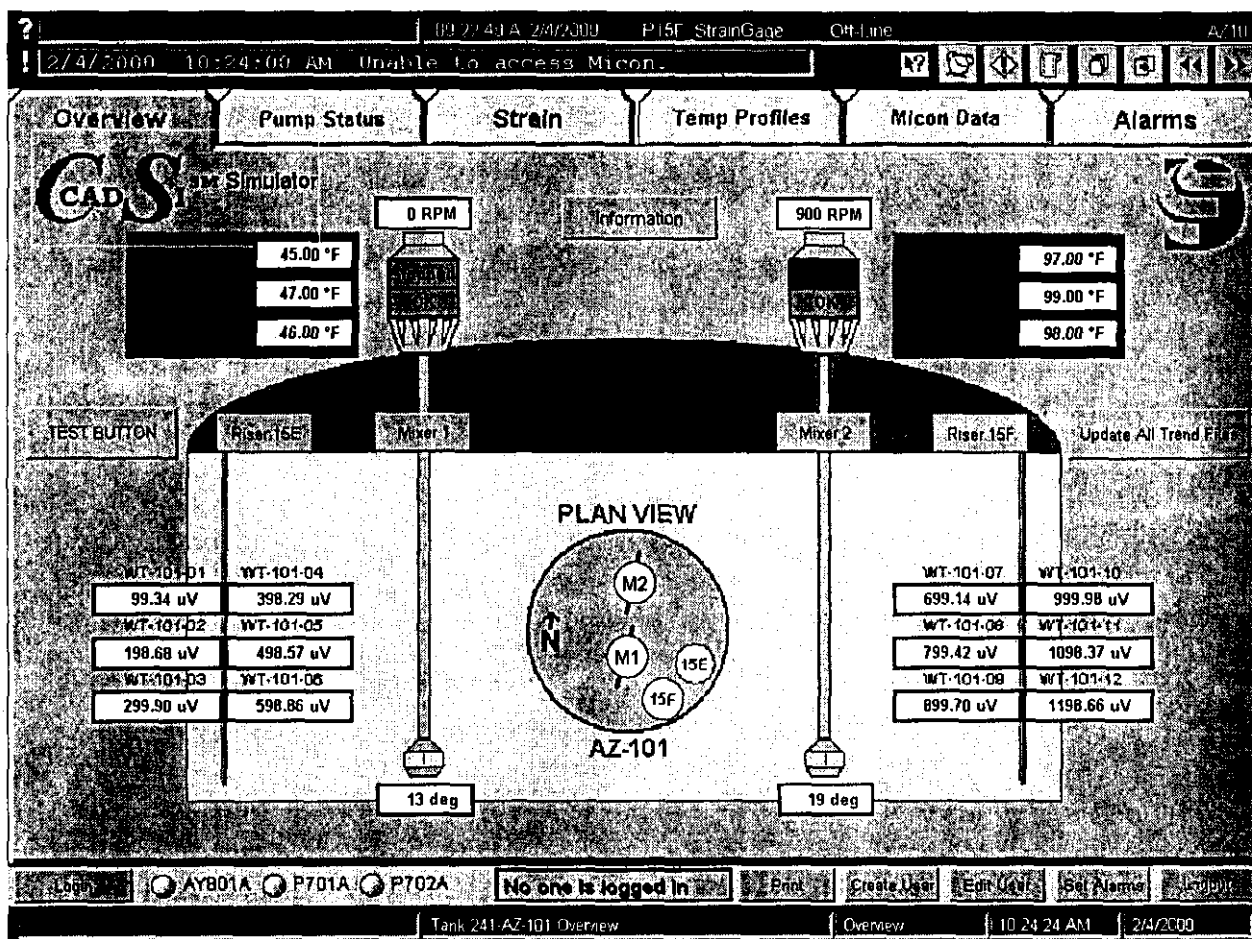

FIGURE 2
If the AZ-101 DAS HMI PC is powered off, then the power switch of the HMI PC needs to be turned on. This will automatically start the AZ-101 DAS application resulting in the display of the start-up screen, "OVERVIEW" shown in Figure 2. *Note that the screens shown indicate "Simulator". This would indicate you are running the CD-ROM trainer, which has identical screens to the actual DAS, except for this word.*
If the AZ-101 DAS HMI PC is locked up (digital clock does not update seconds) then press the Ctrl-Alt-Delete buttons on the keyboard at the same time. A Windows NT Security box appears. Select the Windows NT option to Shut Down, then select Shutdown and Restart and click OK. This will automatically restart the AZ-101 DAS application, resulting in the display of the start-up screen, "OVERVIEW" shown in Figure 2. There are also PLC "heartbeats" that flash to indicate communication with systems. If steady, communication has ceased.
The AZ-101 DAS is setup with several screens organized with folder tabs. These folder tabs are organized horizontally. Associated screens (e.g., OVERVIEW, PUMP STATUS, etc.) are referred to as the parent screens. Sub-screens entered from a parent screen are referred to as a child screen. Refer to Figure 2.
- "OVERVIEW" (Figure 2)
This screen (Figure 2) shows the tank in the mixing process. If the process is active the pump process is animated. The primary data available are: